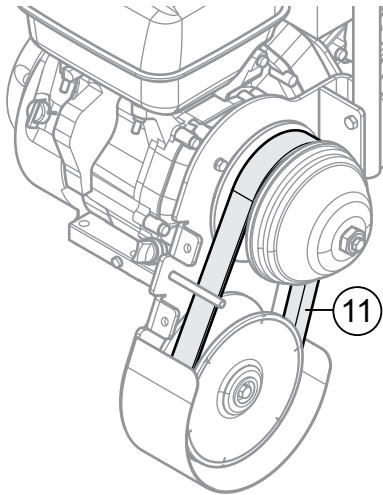

Figure 8. Install Belt
1. Slip new belt (item 11) into the grooves of the upper clutch and lower pulley. See Figure 8.